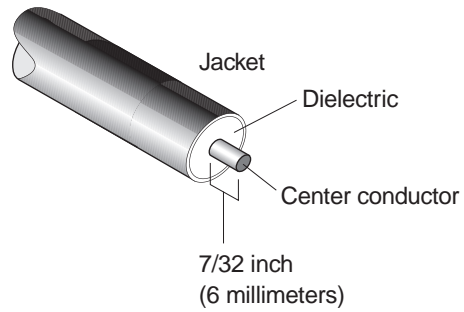

Figure C-3 Using the spin-stripping tool to expose the center conductor
4. Use the spin-stripping tool (Excelta CX 1-78-1, gold color-coded) to remove the cable jacket and dielectric, leaving about 7/32 inch (6 millimeters) of the center conductor exposed, as shown in figure C-3.
- a. Open the stripping jaws of the spin-stripping tool enough to allow the cable end to enter the cable barrel fully. (See figure C-3.)
- c. Rotate the tool around the cable two or three times until the outer cable jacket and dielectric are completely cut through, but *do not score the center conductor*. Rotate the tool in the direction indicated in figure C-3.